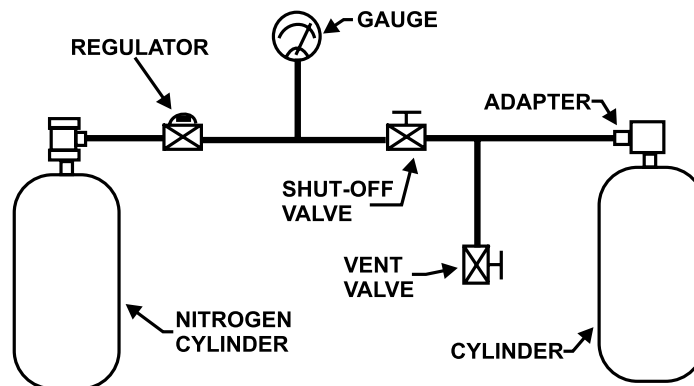

FIGURE 43 - SUGGESTED PRESSURIZATION EQUIPMENT DETAIL
17. Pressurize the cylinder through the discharge adapter to 360 PSIG at 70° F using dry nitrogen gas (figure 43).